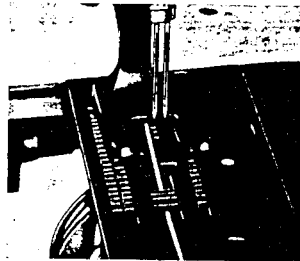

Fig. 88 Threading of cord thread
The air tucking foot for wide tuck (1) is commonly used in combination with the air tucking covering with tongue (10). In the case that a cord is to be sewn into the tucks the regular feed dog must be replaced by air tucking feed dog (7) and the regular throat plate by air tucking throat plate (8). Hereby, the hole in the centre feed row of the feed dog as well as the groove in the throat plate will serve as cord guide (Fig. 88).